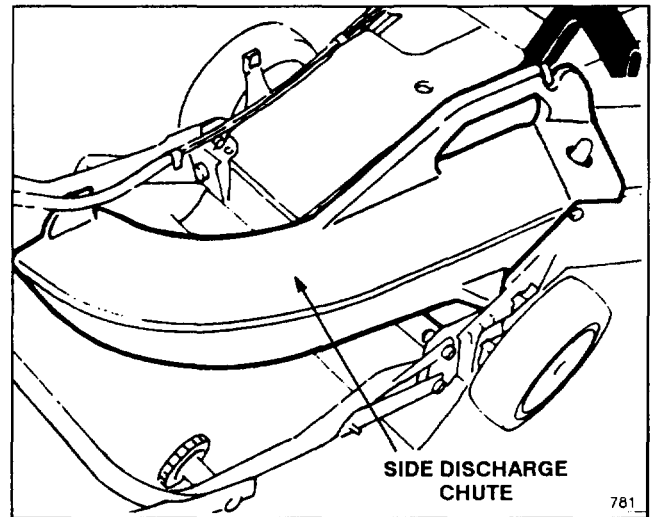

Figure 34
2. **Side Discharge Kit, Model No. 59189**—Install discharge tunnel and rear mounted side discharge chute to convert the Recycler® II Super Pro® mower to a side discharge mower (Fig. 34). Includes discharge tunnel plug.